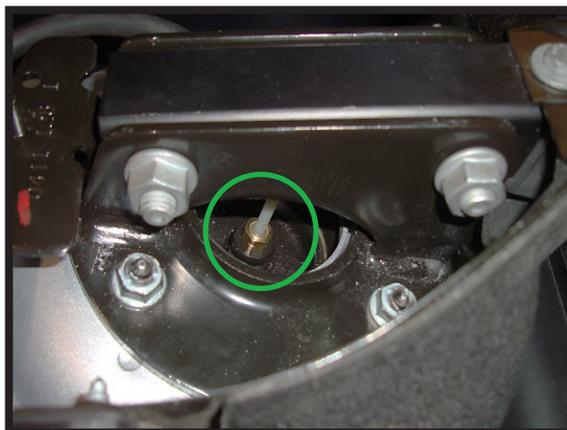

FIGURE 5
7. DISCONNECT THE AIR LINE BY UNSCREWING THE BRASS FITTING FROM THE STRUT'S TOP MOUNT. (FIGURE 5)